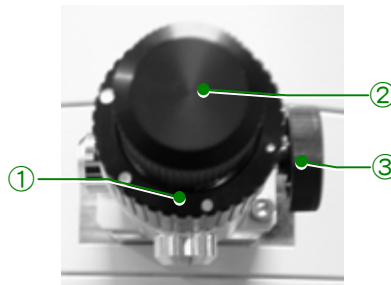

Fig. 4.1 Condenser lens aperture knobs
- Condenser aperture control knobs (see Fig. 4.1)